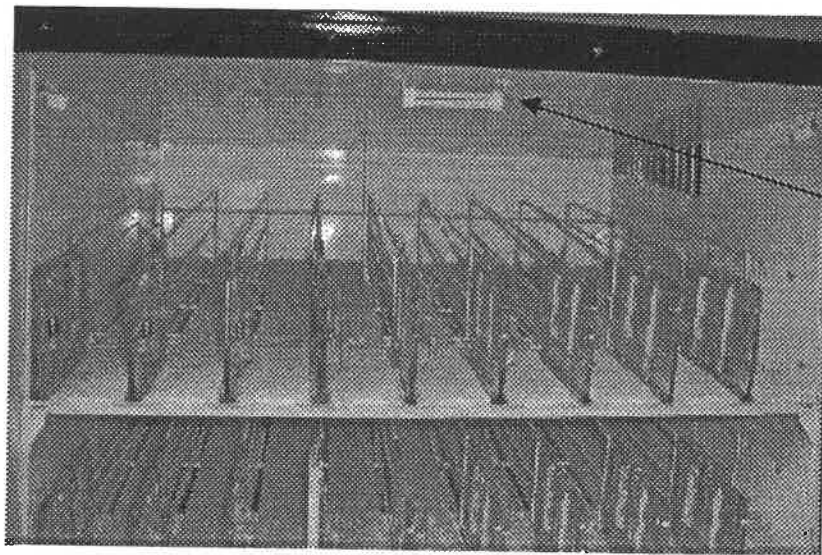

Figure 1
2. Mount the thermometer in the front center-top of the refrigerated area with the two screws provided in the kit. See figure 1 on page 3.